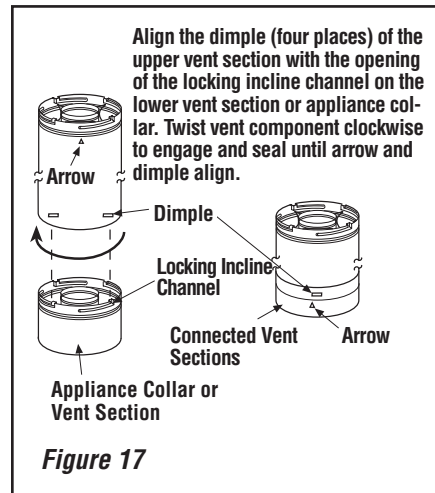

Figure 17
B. Attach vent components to appliance—Secure Vent® SV8 direct-vent system components are unitized concentric pipe components featuring positive twist lock connections (see **Figure 17**).
To attach a vent component to the appliance collar, align the dimpled end over the collar, adjusting the radial alignment until the four locking dimples are aligned with the inlet of the four inclined channels on the collar (refer to **Figure 17**). Push the vent component against the collar until it fully engages, then twist the component clockwise, running the dimples down and along the incline channels until they seat at the end of the channels. The unitized design of the **Secure Vent** components will engage and seal both the inner and outer pipe without the need for sealant or screws. If desired a #6 x 1/2" screw may be used at the joint, but it is not required as the pipe will securely lock when twisted.
Push the vent component against the previous section until it fully engages, then twist the component clockwise running the dimples down and along the incline channels until they seat at the end of the channels. **This seating position is indicated by the alignment of the arrow and dimple as shown in Figure 17.**
F. Change vent direction to horizontal/inclined run—At transition from or to a horizontal/inclined run, install the SV8 E45 and SV8 E90 elbows in the same manner as the straight vent sections. The elbows feature a twist section to allow them to be routed about the center axis of their initial collar section to align with the required direction of the next vent run element. **Twist elbow sections in a clockwise direction only so as to avoid the possibility of unlocking any of the previously connected vent sections.** See **Figure 17 on Page 14** and **Figure 19**.
Secure Vent SV8 direct-vent system components are unitized concentric pipe components featuring positive twist lock connection, (refer to **Figure 17 on Page 14**). All of the appliances covered in this document are fitted with collars having locking inclined channels. The dimpled end of the vent components fit over the appliance collar to create the positive twist lock connection.
C. Frame ceiling opening—If the vertical route is to penetrate a ceiling, use plumb line to locate the center above the appliance. Cut and/or frame an opening, 13" x 13" (330 mm x 330 mm) inside dimensions, about this center (refer to **Figure 17 on Page 14**).
E. Attach vent components to each other—Other vent sections may be added to the previously installed section in accordance with the requirements of the vent tables. To add another vent component to a length of vent run, align the dimpled end of the component over the inclined channel end of the previously installed section, adjusting the radial alignment until the four locking dimples are aligned with the inlets of the four incline channels of the previous section. Push the vent component against the previous section until it fully engages, then twist the component clockwise running the dimples down and along the incline channels until they seat at the end of the channels. **This seating position is indicated by the alignment of the arrow and dimple as shown in Figure 17 on Page 14.**
H. Change vent direction—At transition from or to a horizontal/inclined run, install the SV8E45 and SV8E90 elbows in the same manner as the straight vent sections. The elbows feature a twist section to allow them to be routed about the center axis of their initial collar section to align with the required direction of the next vent run element. **Twist elbow sections in a clockwise direction only so as to avoid the possibility of unlocking any of the previously connected vent sections (see Figure 17 on Page 14).**